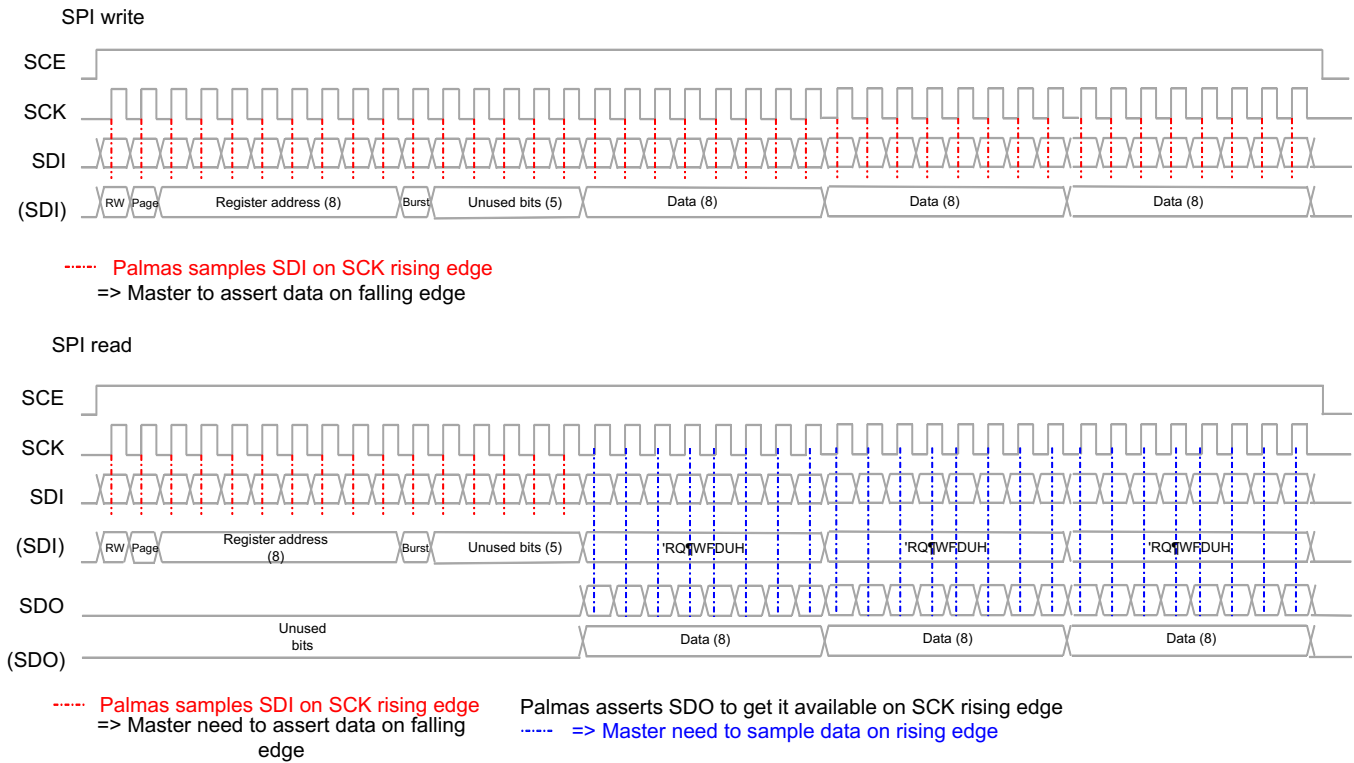

图 6-16. SPI Burst Read and Write Access
- This consists of fetching and storing several data at contiguous locations. The protocol is depicted in Figure 6-16.